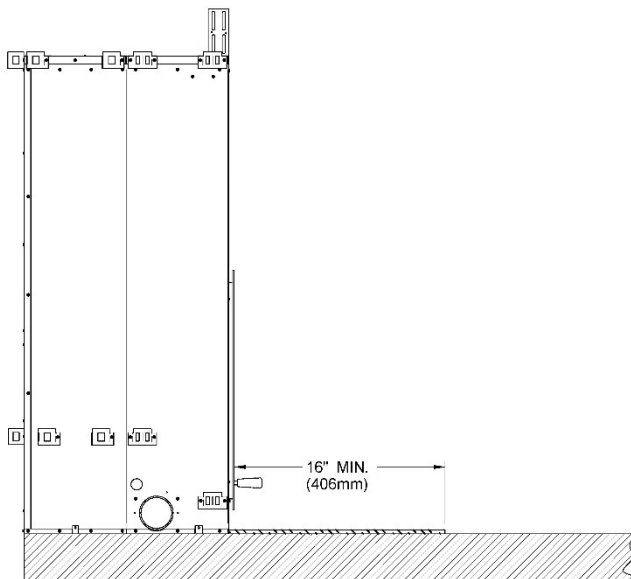
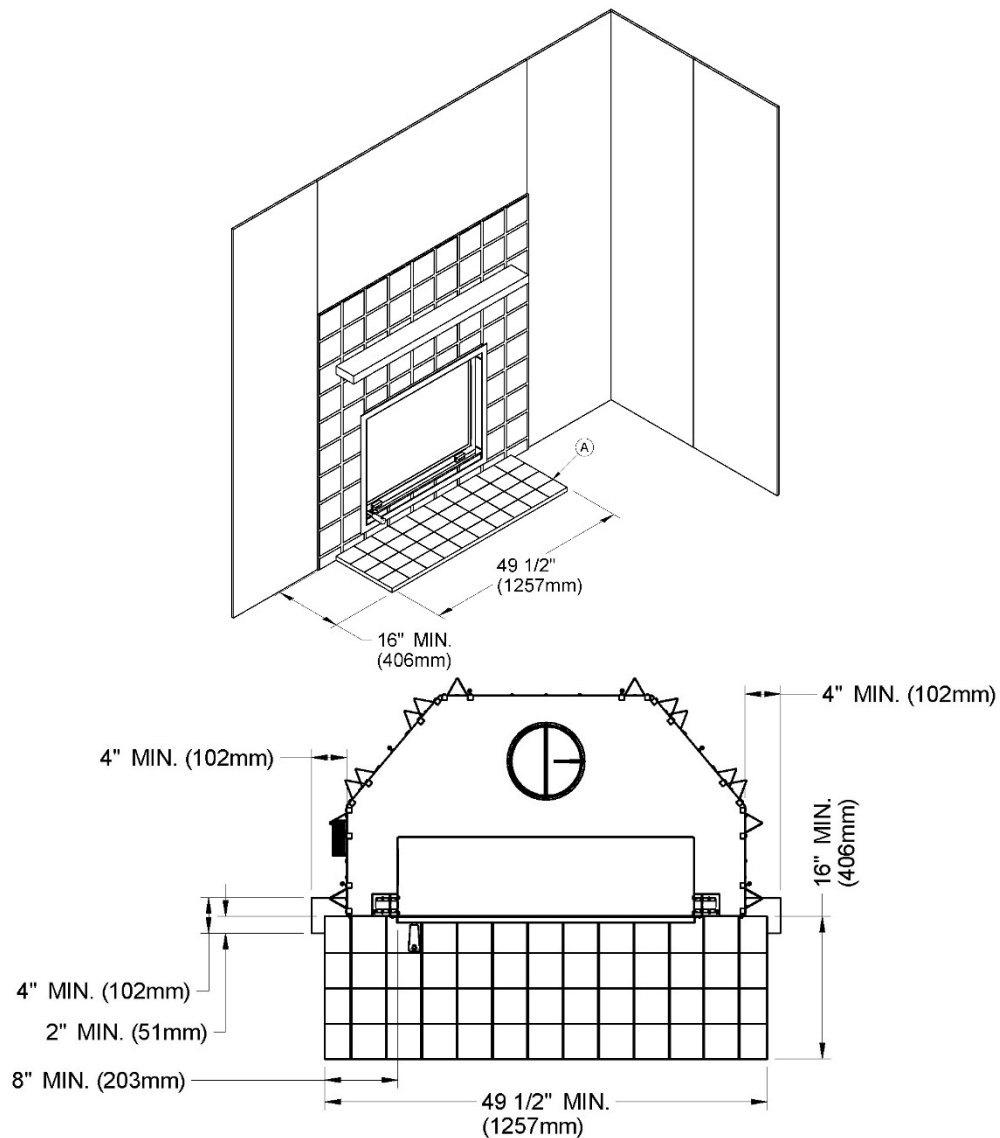

Figure 8 Installation on raised base
Figure 10
The hearth extension floor area (see (A) on Figure 10) must extend at least 16" (40 cm) in front and at least 8" (20 cm) on each side of the door opening (see Figures 8 and 10). The joint between the hearth extension and the fireplace hearth needs to be made of non-combustible material such as sheet metal or sand-cement grout (not included) as shown on Figure 11.